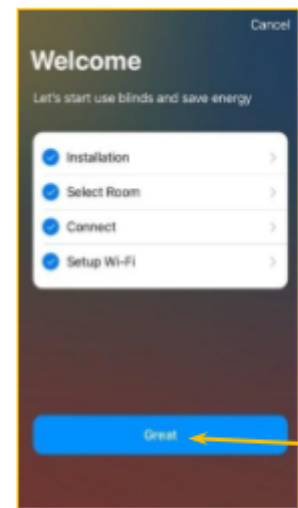

Figure 11
**10.2.4.3.** After successful connection to Wi-Fi, **Great** key appears on the screen (Fig. 11). Click it to start operation of the BLINDS.